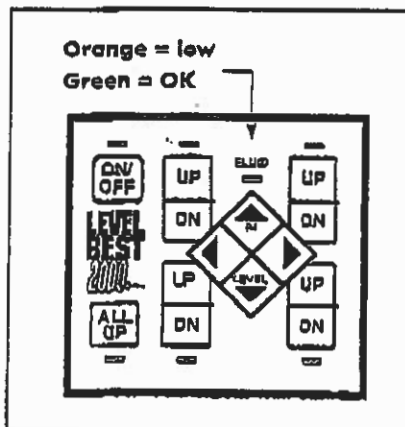

Figure 1a
- a. An orange LED located at the fluid check window on the control panel indicates a low fluid condition. A green LED indicates a correct fluid level. This LED illuminates only during system start up when all of the jacks are retracted. (Fig. 1a)